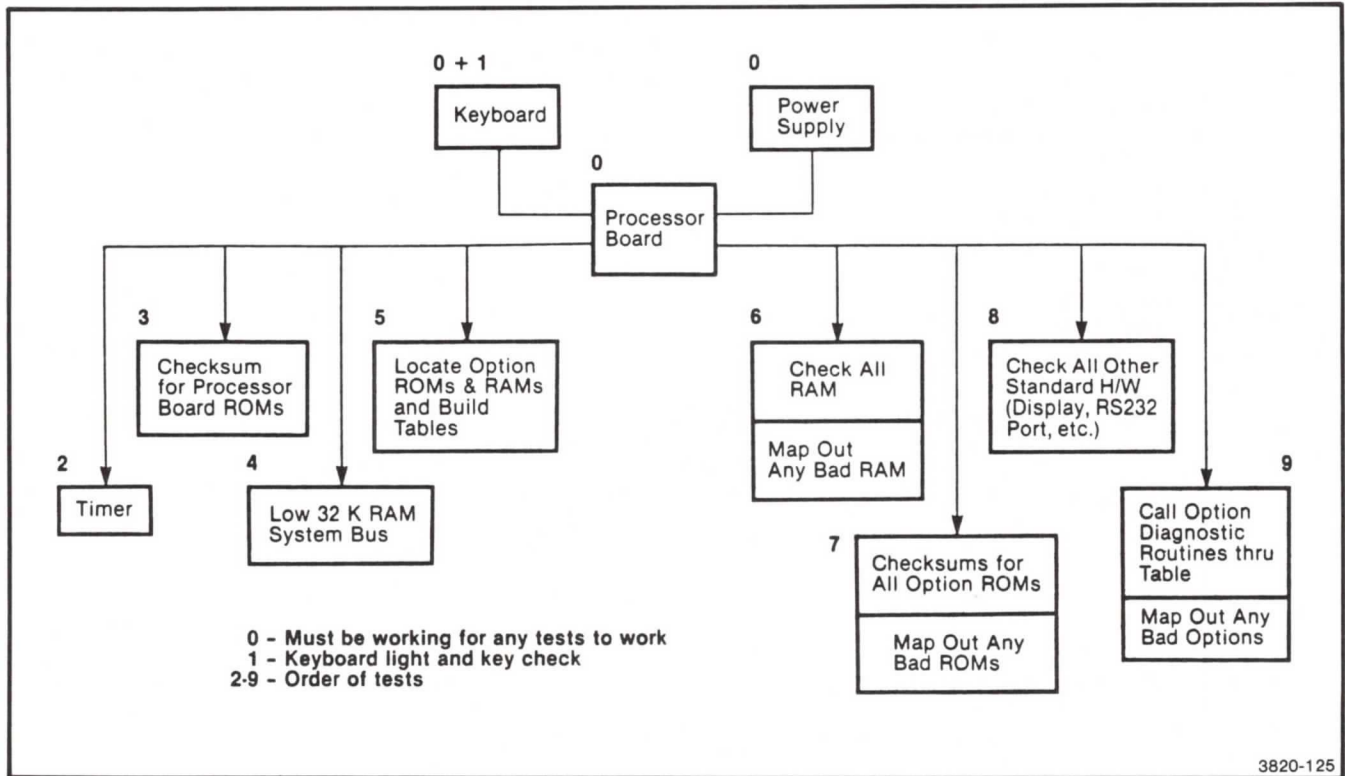

Figure 5-2. Self-Test Program Block Diagram.
Figure 5-2 shows the order in which the various hardware modules are tested. The three areas "flagged" with a 0 must function for Self-Test to run. After these areas are verified as functional, the keyboard lights and keys are tested (1). Then areas 2 through 9 are tested in that order.